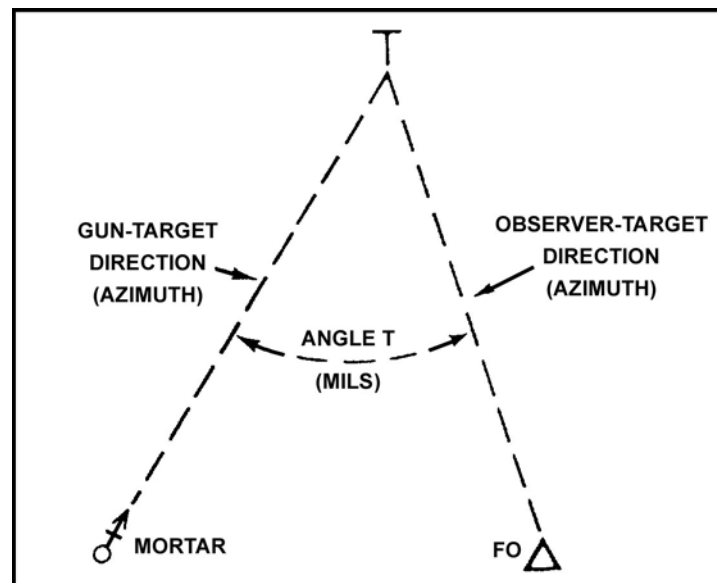

Figure 1. Angle T.
1. Angle T is the difference in mils (angle) between the O-T direction and gun-target (G-T) direction (Figure 1).